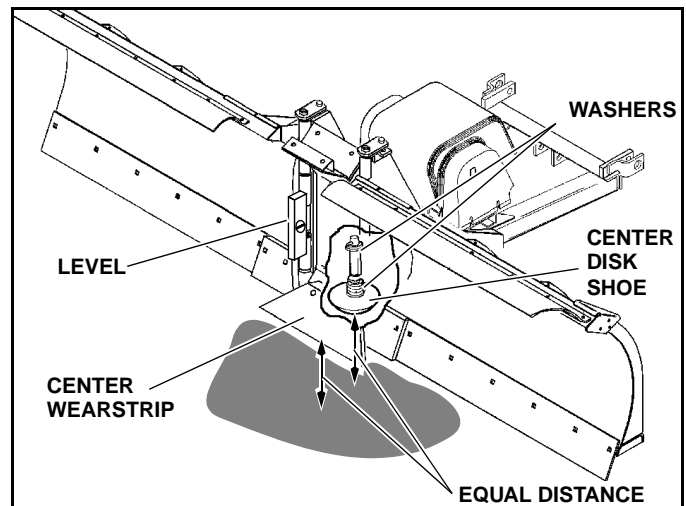

Figure 3-1
5. Determine whether the Center Disk Shoe or the Center Wearstrip is off the ground and measure the amount that it is off the ground. (See Figure 3-1)